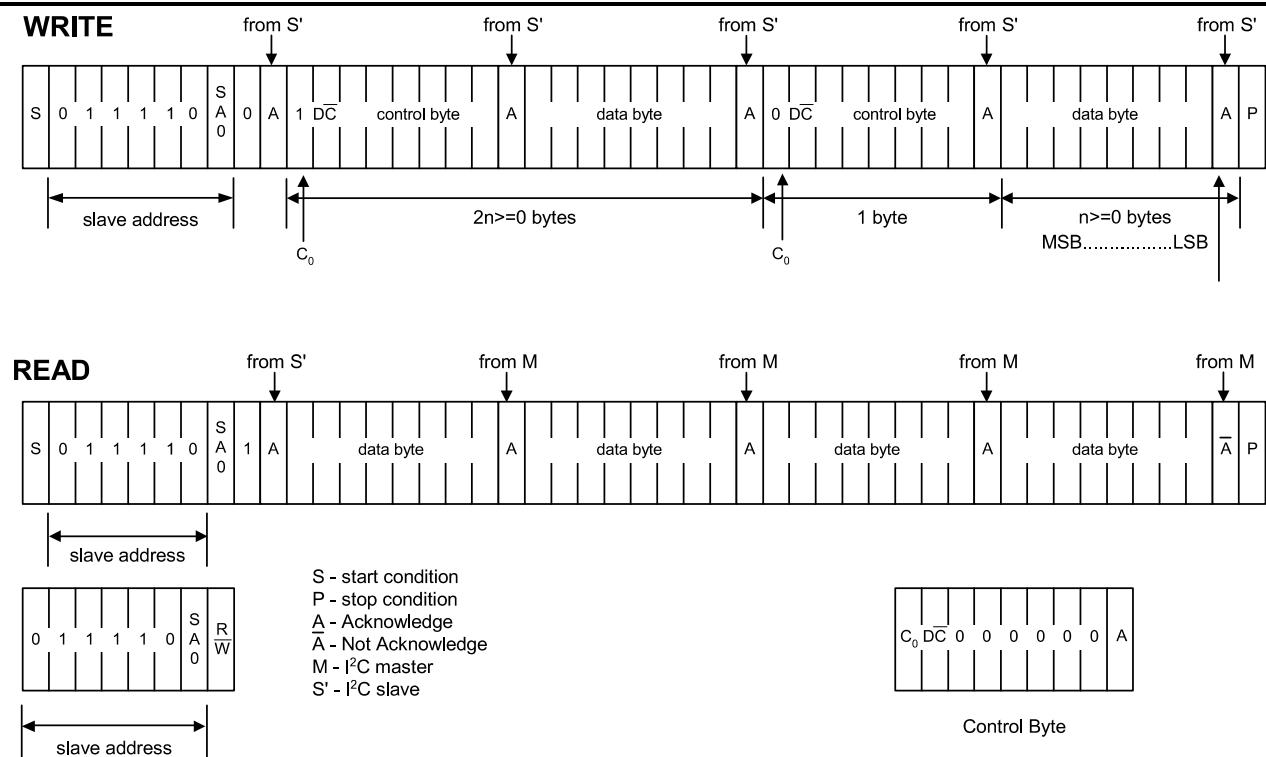

Figure 7 I²C Protocol
The SH1106 supports both read and write access. The R/W bit is part of the slave address. Before any data is transmitted on the I²C-bus, the device that should respond is addressed first. Two 7-bit slave addresses (0111100 and 0111101) are reserved for the SH1106. The least significant bit of the slave address is set by connecting the input SA0 to either logic 0(VSS) or 1 (VDD1). The I²C-bus protocol is illustrated in Fig.7. The sequence is initiated with a START condition (S) from the I²C-bus master that is followed by the slave address. All slaves with the corresponding address acknowledge in parallel, all the others will ignore the I²C-bus transfer. After acknowledgement, one or more command words follow which define the status of the addressed slaves. A command word consists of a control byte, which defines Co and D/C (note1), plus a data byte (see Fig.7). The last control byte is tagged with a cleared most significant bit, the continuation bit Co. After a control byte with a cleared Co-bit, only data bytes will follow. The state of the D/C-bit defines whether the data-byte is interpreted as a command or as RAM-data. The control and data bytes are also acknowledged by all addressed slaves on the bus. After the last control byte, depending on the D/C-bit setting, either a series of display data bytes or command data bytes may follow. If the D/C-bit was set to '1', these display bytes are stored in the display RAM at the address specified by the data pointer. The data pointer is automatically updated and the data is directed to the intended SH1106 device. If the D/C-bit of the last control byte was set to '0', these command bytes will be decoded and the setting of the device will be changed according to the received commands. The acknowledgement after each byte is made only by the addressed slave. At the end of the transmission the I²C-bus master issues a stop condition (P). If the R/W bit is set to one in the slave-address, the chip will output data immediately after the slave-address according to the D/C-bit, which was sent during the last write access. If no acknowledge is generated by the master after a byte, the driver stops transferring data to the master.